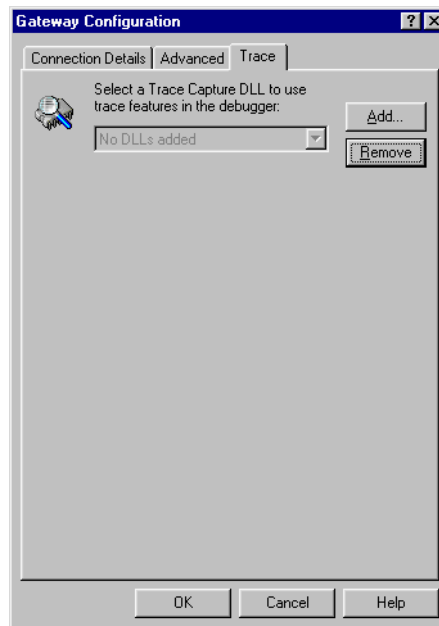

Figure B-17 Gateway Configuration dialog box, Trace tab
10. Click on the **Trace** tab, shown in Figure B-17 on page B-22.
8. Click **Trace** to display the trace configuration tab, as shown in Figure B-17 on page B-22.